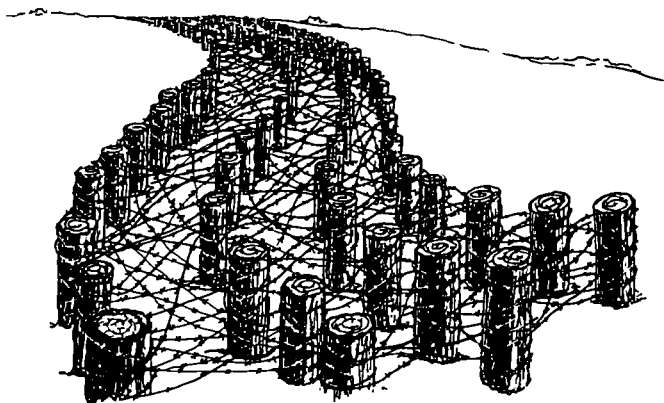

Figure 161. Belt of log post obstacles.
d. Posts. Posts are effective antivehicular obstacles because each post presents a breaching problem to the attacker. Post obstacle belts may be constructed using either steel, log, or concrete posts or a combination of any of these. The effect of post-type obstacles can be enhanced and the obstacles made more difficult to breach by weaving spirals of barbed wire among the posts as shown in figure 161. The belt illustrated is an antipersonnel as well as an antivehicular obstacle and should be sited at a location which cannot be bypassed.